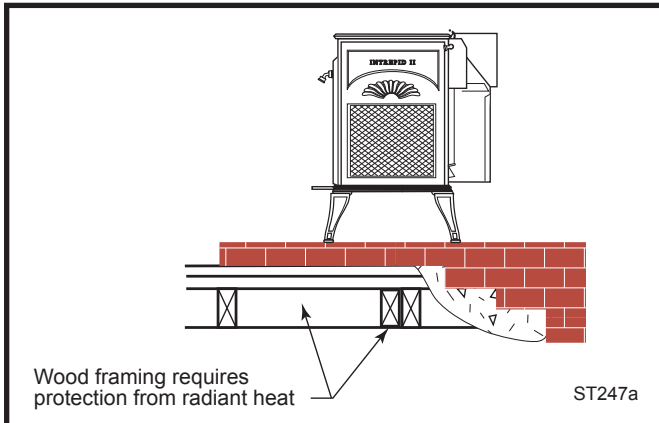

**Fig. 11** Required floor protector dimensions.
**In the United States**, the floor protector required under the stove must extend at least 16" from the front of the stove - not from the ashlip - (Labeled 'E' in Fig. 11), and at least 6" from the sides and rear ('D', Fig. 11).
**In Canada**, the floor protector required under the stove must extend 18" (460mm) to the front (labeled 'E', Fig. 11), and 8" (200mm) from the sides and rear. ('D', Fig. 11)
Floor protection also must extend under the chimney connector and 2" (51 mm) to either side. ('C', Fig. 11) For 6" (152 mm) connector used with the Intrepid II, the protector must be a minimum of 10" (254 mm) wide, centered under the connector.